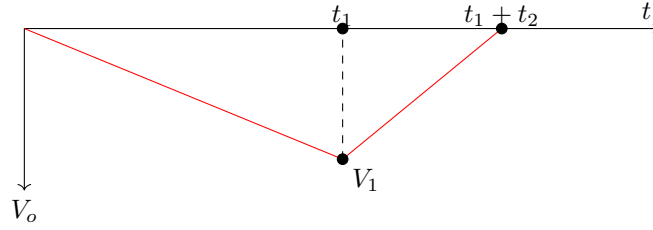

Figure 1.9: Integrator output after t_2
3. **Comparator AND Clock:** We see that the integrator output in figure 1.9 is always negative, during the whole conversion process ($t_1 + t_2$). Since this output is fed to the inverting terminal of the comparator (OA_2), the output of OA_2 will always be high. Consequently, the AND gate function reduces from Comparator AND Clock to Clock ($1 \text{ AND } A = A$). This means, the AND gate will output high value whenever the clock pulse is high. Only after t_2 , when the integrator's output becomes 0, the comparator will give low output. Then the AND gate will block the clock pulse from the counter, marking an end to the counting.
3. Well we haven't discussed the context behind the name 'Dual Slope' yet, but you should have guessed it by now. As we see in both figures 1.9 & 1.11, the slope of the integration, and de-integration phases are different. First one depends on the value of the sampled input, while the second one is the same for all samples, and depends on the reference voltage instead.